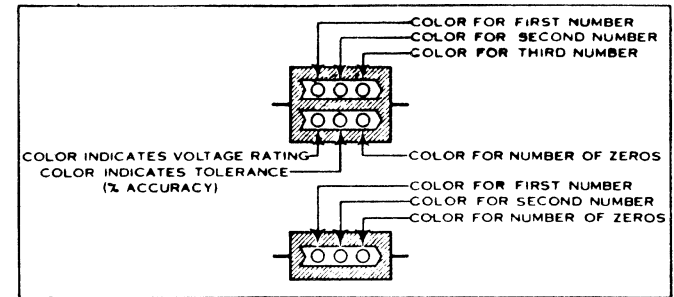

FIGURE 13. RMA MICA CAPACITOR COLOR CODE CHART
EXAMPLE: A 56,300 MMFD.(0.0563 MFD.) capacitor of 10% tolerance and a 500 volt rating is indicated by a green dot (5), a blue dot (6), and an orange dot (3), on the top row; a red dot (2 zeros) (00), a silver dot (10% tolerance) and a green dot (or no color) (500 volts) arranged in the order shown in Figure 13. All capacitance values are given in micro-microfarads (MMFD). To convert to microfarads (MFD) move the decimal point 6 places to the left. Small capacitors are often marked with 3 dots as shown in Figure 13. For example, a 250 MMFD. unit (.000250 MFD.) would be marked Red (2), green (5), and brown (1 zero) (0).